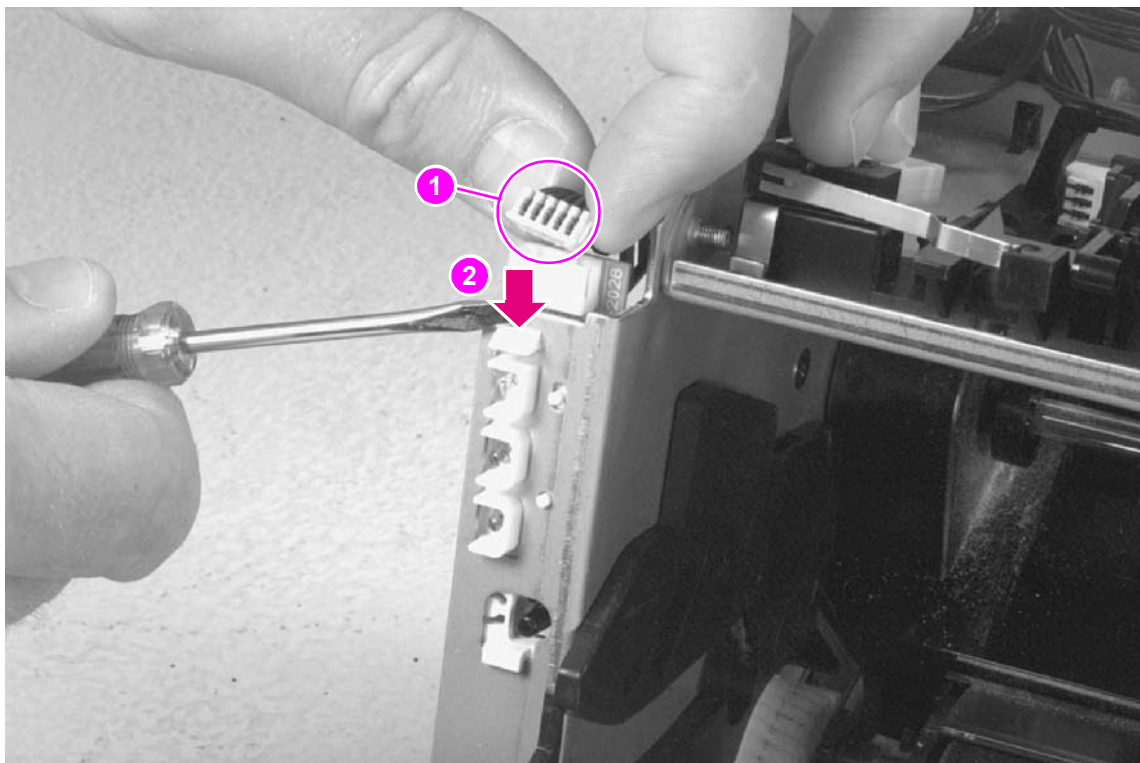

Figure 6-7 Control Panel removal
- 2 Use the needlenose pliers to release the Control Panel connector (Figure 6-7, callout 1).
- 3 Press the tab on the top of the Control Panel downward (Figure 6-7, callout 2). The Control Panel will pop out of the printer chassis.
- 2 Press the tab on the top of the Control Panel downward (Figure 6-7, callout 2). The Control Panel will pop out of the printer chassis.